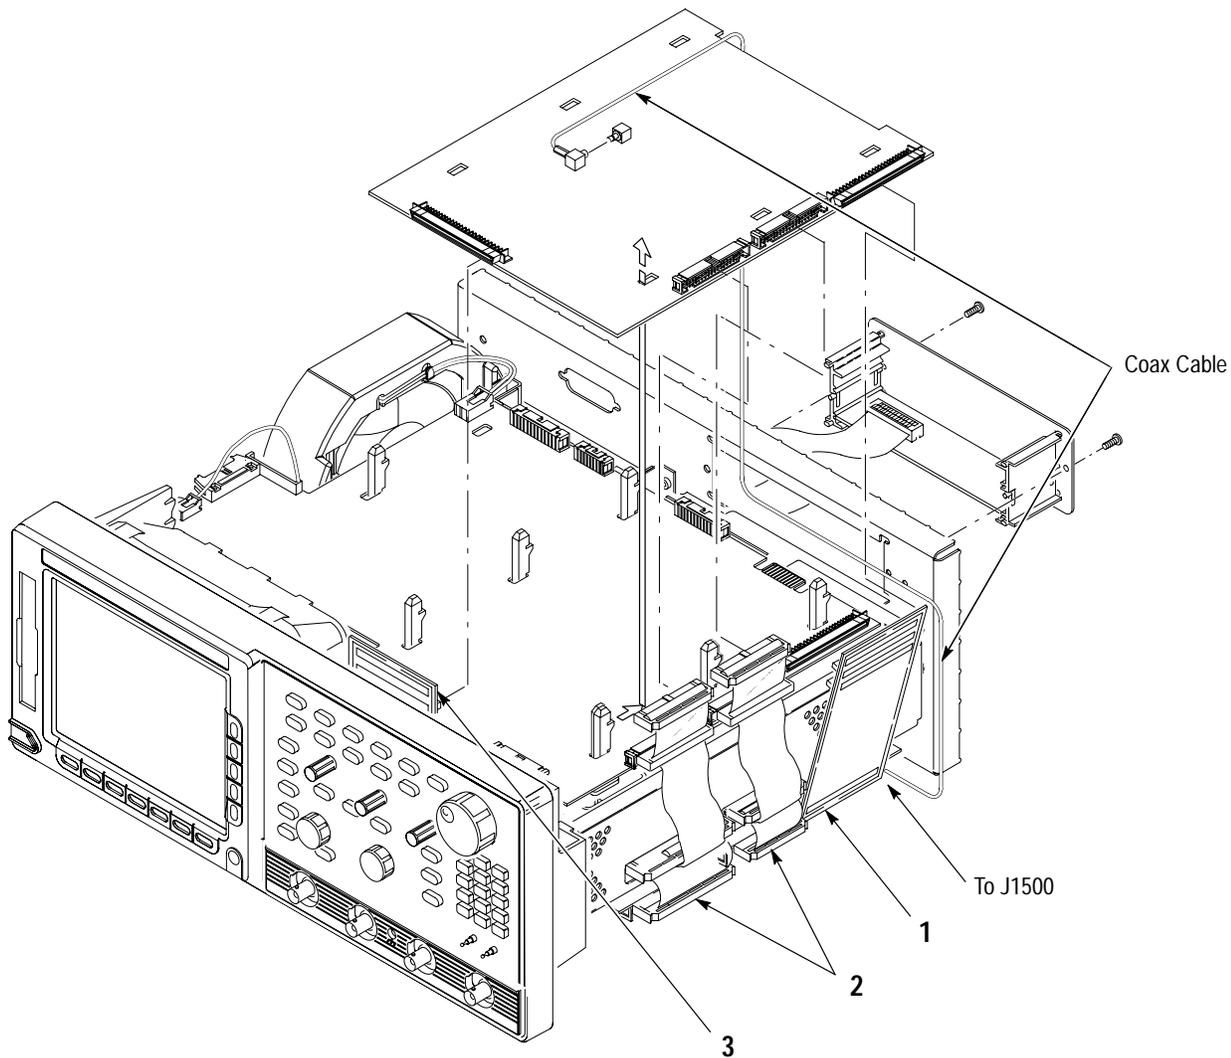

Figure 6–14: Circuit board removal
**NOTE.** For the TDS 600B, be sure to arrange the coax cable as shown in Figures 6–13 and 6–14. Failure to do this may impair performance.
Also, when plugging in the digital bus boards, 1 and 3 in Figure 6–14, make sure that they remain plugged in on both ends.